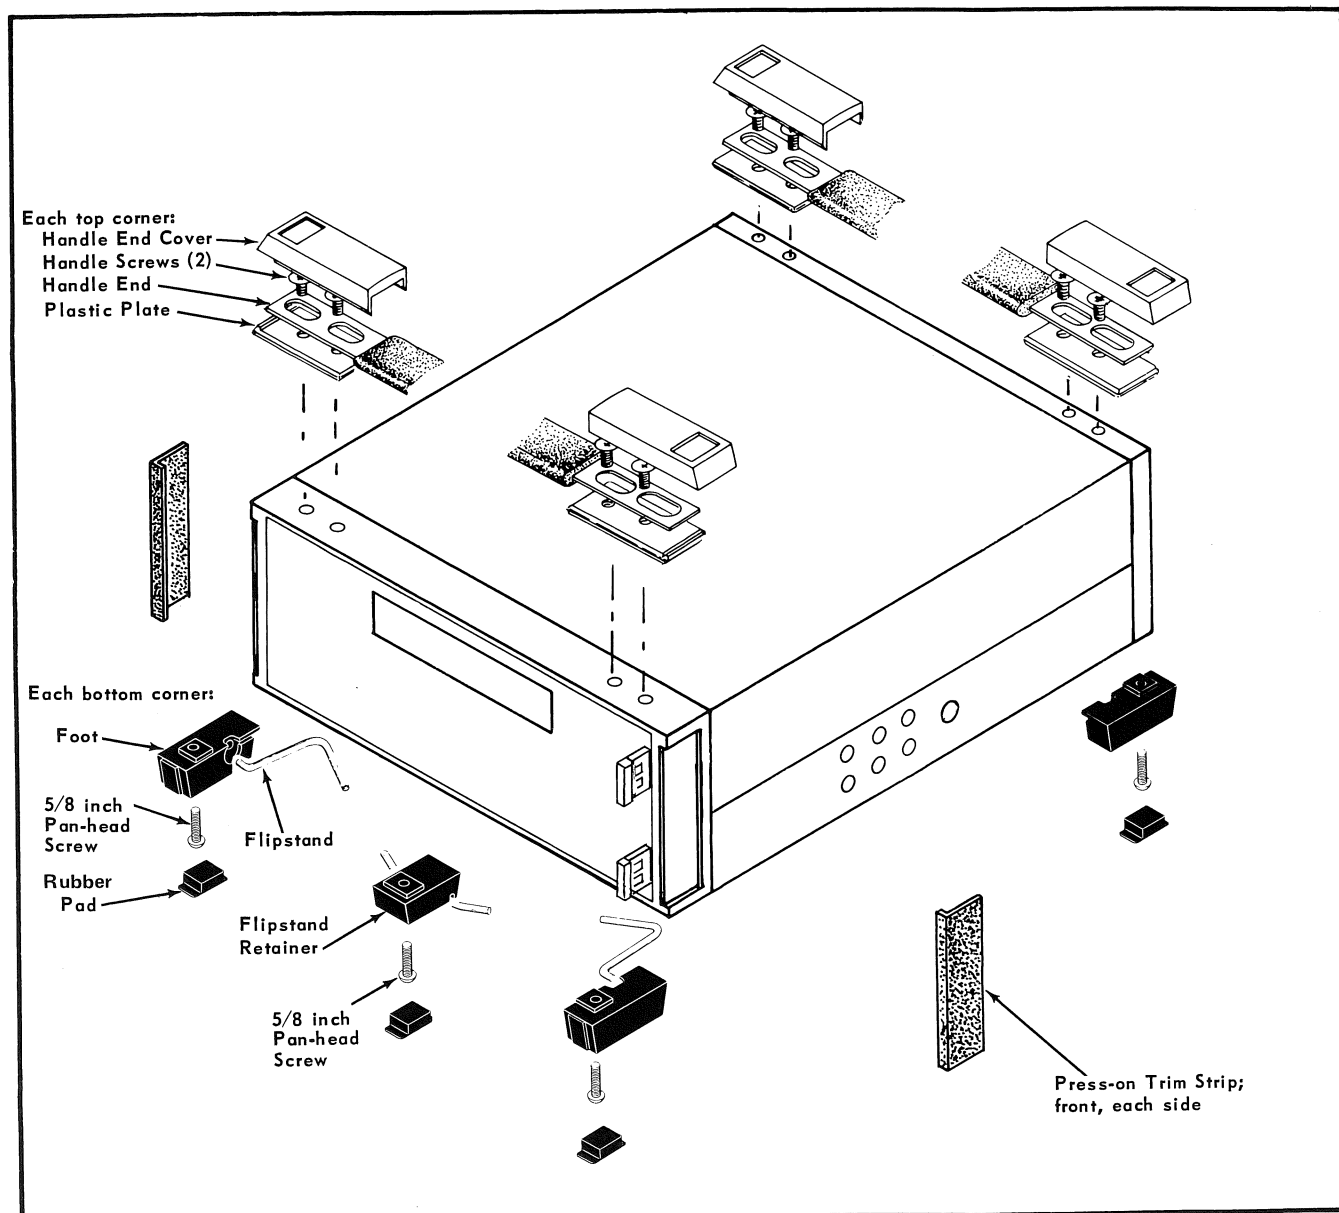

Fig. 2-5. Parts Particular to the Type 287 (benchmount instrument).
The parts listed in Table 2-5 must be added to complete the conversion of a Type R287 to a benchmount instrument. Locations are shown in Fig. 2-5.
1. Install the four feet, orienting them as shown in Fig. 2-5, then insert the four rubber foot pads. Install the flip stand retainer, then spring the flip stand in place.
R287). These parts are shown in Fig. 2-5 and can be removed as follows: